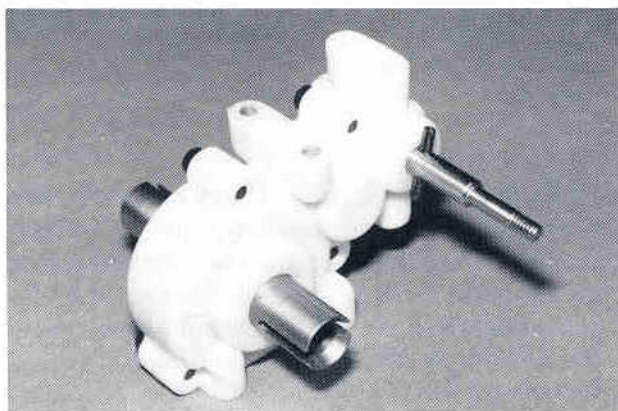
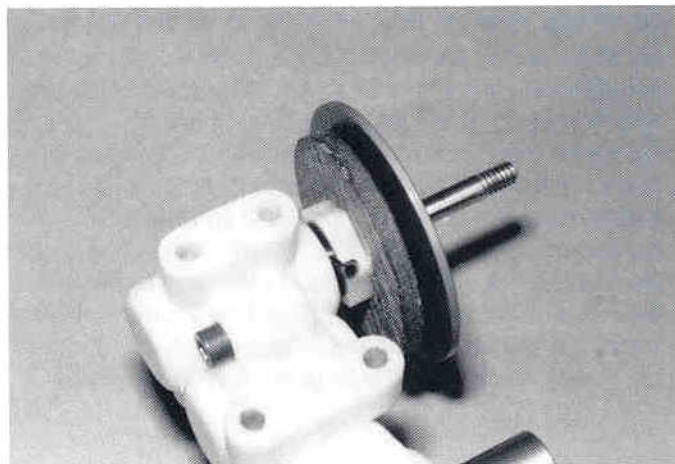

Fig. 85
Fig. 86
□ **Figs. 85 & 86** Now we need to install the inner torque clutch hub and brake disk assembly onto the #6571 drive gear shaft. The brake disk adapter side of the clutch hub will go onto the shaft first. The clutch hub slot and the notches in the plastic brake disc hub go onto the #7665 drive shaft roll pin. Fig. 86 shows the brake disc and clutch installed.